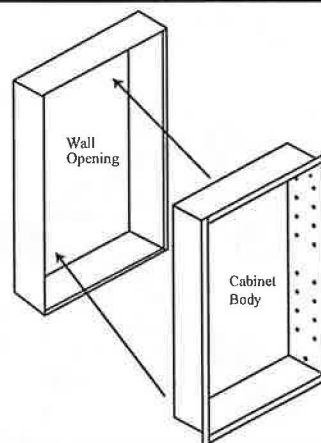

Fig. 5
- 6) Snap the screw covers over the screw bases. (Figure 5)